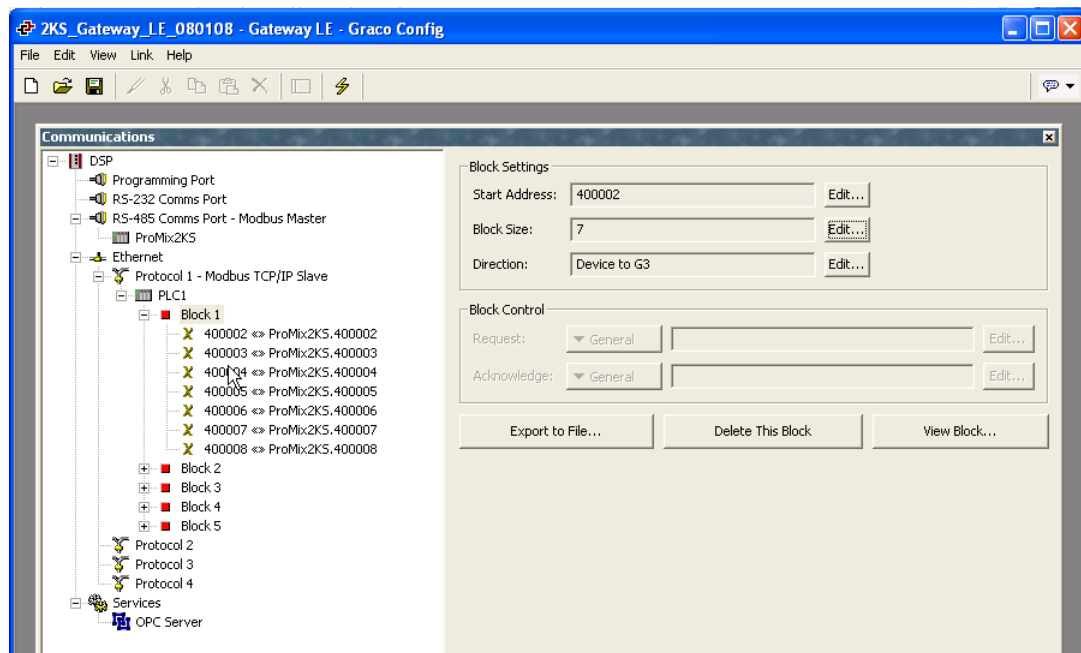

FIG. 25: Block Mapping Data
- See FIG. 25. Click OK. The range of addresses will appear under the appropriate Block on the left side of the window.